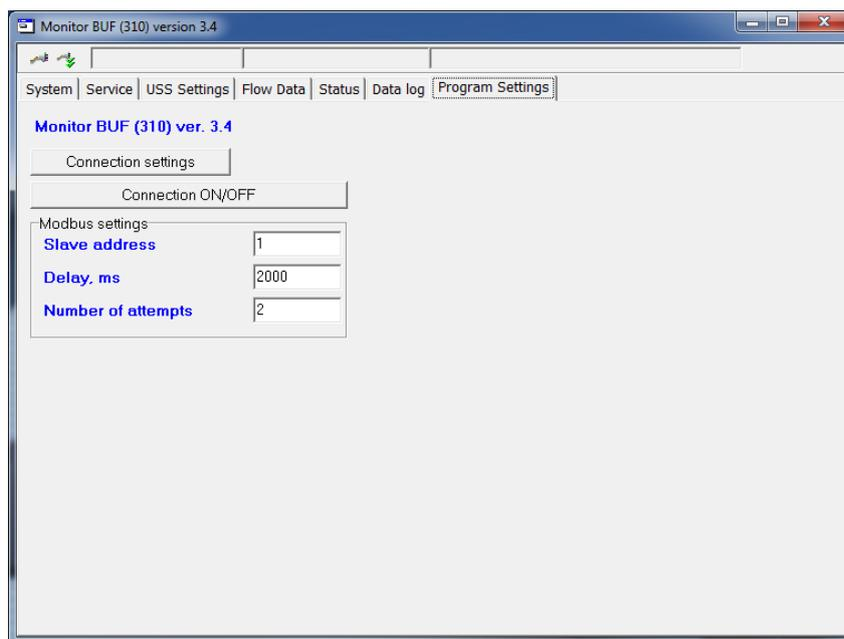
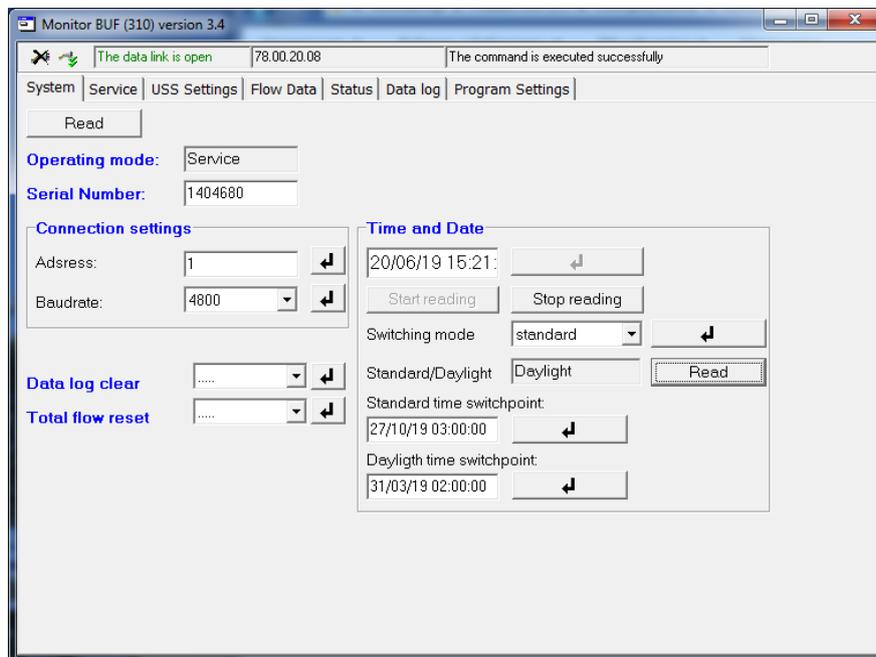

Fig.7. View of the Monitor BUF (310) application window
Fig.9. View of the System tab after the PC has been connected to the flow meter
Set the flow meter to SERVICE mode by setting a jumper on the corresponding contact pair. Start the "UBViewerProjects" file on the computer from the folder where it was loaded during installation. The UBViewer ModBus menu bar appears on the monitor. Open the "AFLOWT BUF M (310).vpr" file, and the **Monitor BUF (310)** application window will be displayed (Fig.7).
To set up the connection parameters, press **Connection settings** button on the **Programm Settings** tab or press the  (Edit parameters of connection with the device) button in the upper left corner of the application window (Fig. 7).
To set up communication with the flow meter, press the  button in the upper left corner of the application window (Fig.7). If the operation is successfully completed, the line to the right of the  button should contain the following messages: "**The data link is open**" and "**The command is executed successfully**". The  button will change the view to  (Close communication channel). Click the **System** button in the command line, the **System** tab will appear in the application window (Fig.9).